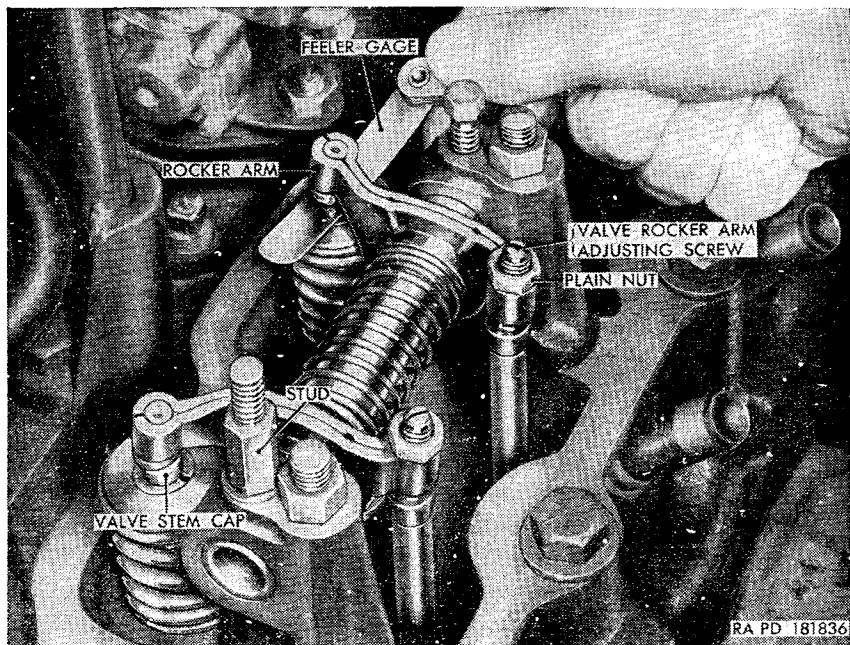

Figure 43. Checking intake valve clearance.
- (6) Unscrew the rocker arm cover elbow from the top of the cover.
- (7) Do not remove the two studs (fig. 43) from the two end rocker arm shaft brackets unless they are damaged. To remove the studs, unscrew them from the tops of the brackets and remove the internal-teeth lock washer from each stud.
- (1) If the studs (fig. 43) securing the rocker arm cover assembly were removed, install them. Using one  $\frac{5}{16}$ -inch internal-
- (1) Remove the rocker arm cover assembly and gasket (par. 108a(1) through (5)).
- (2) Using a suitable socket wrench and extensions, turn the engine crankshaft, as necessary, to bring each intake valve in turn to the fully closed position. Check the valve clearance by inserting a feeler gage between the valve stem cap and the rocker arm (fig. 43). The valve clearance should be 0.018 inch.